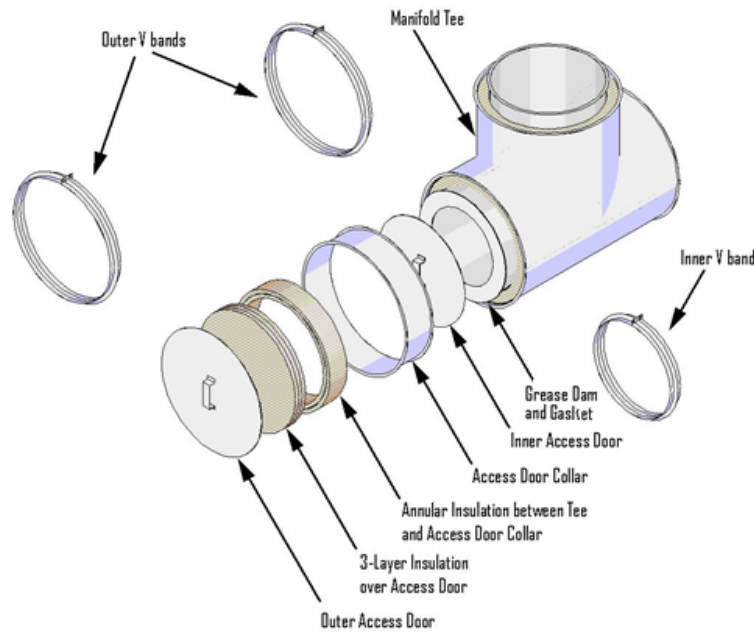

Figure 2. Access Door Assembly
- B. ACCESS DOOR – When required, use the duct manufacturer's manifold tee and access door (tee cap) assembly (see Figure 2). Apply a 1/4 in. continuous bead of sealant (Item 2A) to the inner flange of the tee on the side where access door is to be located. Center the supplied